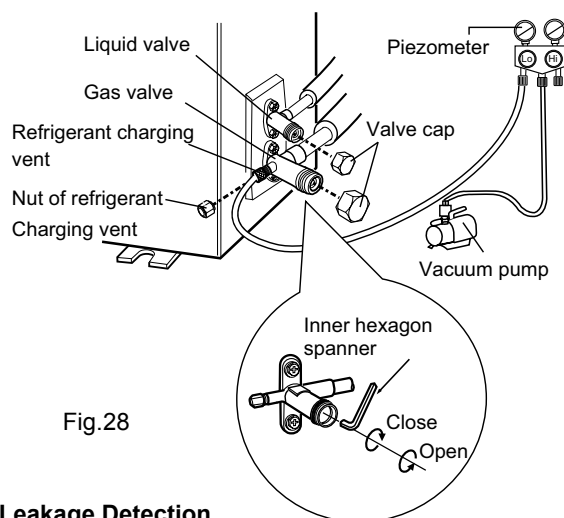

Fig.28
(1) Remove the valve caps on the liquid valve and gas valve and the nut of refrigerant charging vent.
(2) Connect the charging hose of piezometer to the refrigerant charging vent of gas valve and then connect the other charging hose to the vacuum pump.
(3) Open the piezometer completely and operate for 10-15min to check if the pressure of piezometer remains in -0.1MPa.
(4) Close the vacuum pump and maintain this status for 1-2min to check if the pressure of piezometer remains in -0.1MPa. If the pressure decreases, there may be leakage.
(5) Remove the piezometer, open the valve core of liquid valve and gas valve completely with inner hexagon spanner.
(6) Tighten the screw caps of valves and refrigerant charging vent. (As show in Fig.28)